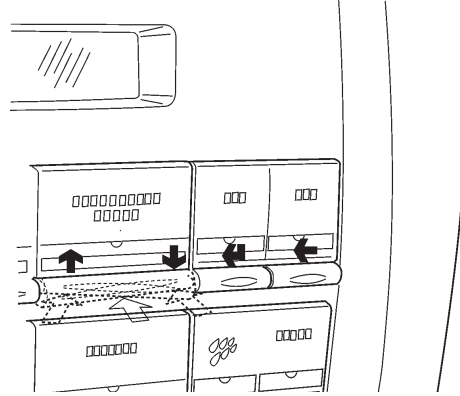

Fig. 25
- External direct-selection pushbutton panel that will assume the following functions in the “Filler” and “Technician” mode (see fig. 25):